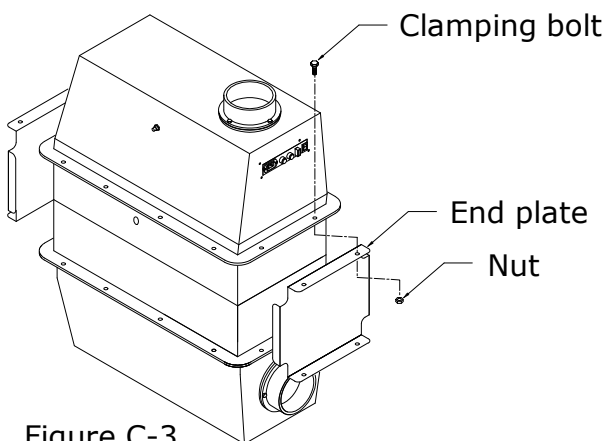
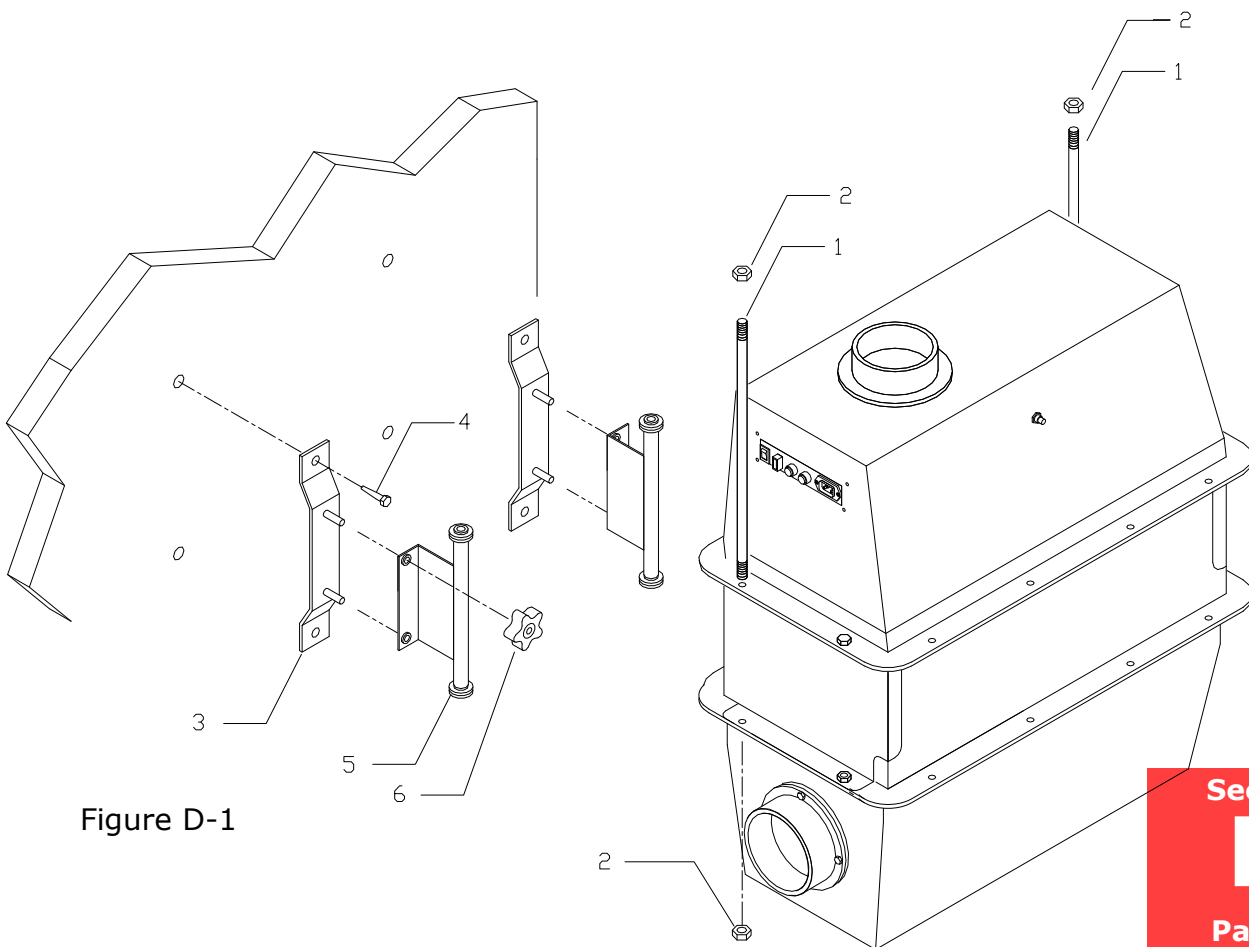

Figure C-3
Figure D-1
6. Sandwich the filter assembly with the two aluminum end plates and insert the clamping bolts and nuts as shown in figure C-3. The threaded rod, spacer, and floating clamp bar are installed with the end plates. See figure D-1 on page 6 for how these parts are installed.